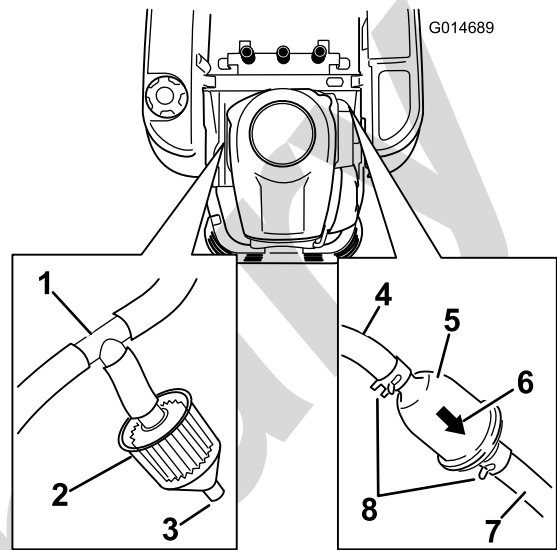

Figure 35
3. Raise the seat and locate the fuel filters as shown in Figure 35.
4. Squeeze the ends of the hose clamps together and slide them away from the filter (Figure 35).
6. Install a new filter with the flow direction arrow coming from the fuel tank and pointing to the engine. Move the hose clamps close to the filter (Figure 35) to secure it in place.
Some machines are equipped with a emissions filter (Figure 35) connected to a tee fitting on the vent line coming from the gas tank. The filter has an open port by design. The filter should be inspected regularly. Replace the filter if the filter is dirty or clogged.